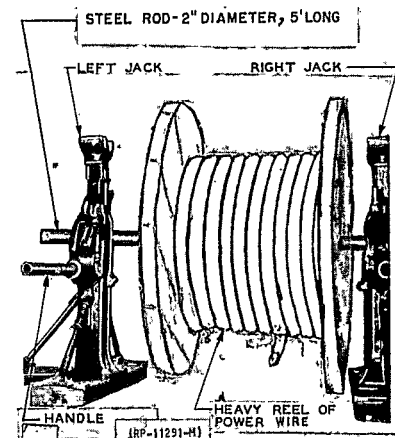
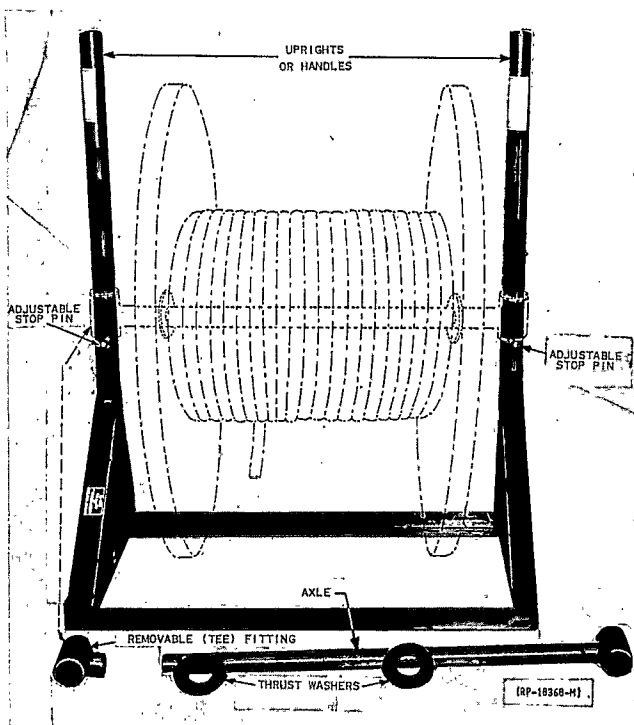

FIG. 3 CABLE REEL SUPPORTED WITH JACK SET R-1615 (PAR. 10.021)
FIG. 4 R-3195 POWER WIRE REEL LIFT
10.021 The large size reels containing power wire are supported while being unreeled on Jack Set R-1615 (Figure 3) or reel lift R-3195 (Figure 4).